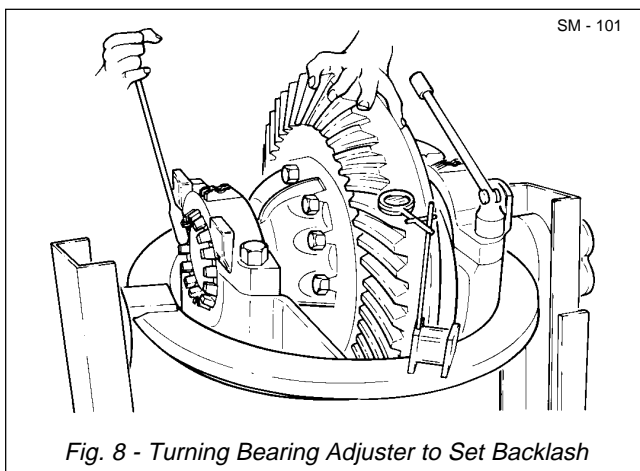

Fig. 8 - Turning Bearing Adjuster to Set Backlash
The bearing adjusters (26) have two basic functions: pre-loading cups (27) and cones (28); and positioning ring gear (31) to obtain the correct backlash between the ring gear and pinion gear (15). See Fig. 8. The bearing adjuster (26) located on the same side of pinion gear (15) as ring gear (31), pushes the ring gear toward the pinion gear. Bearing adjuster (26), located on the opposite side of pinion gear (15) than the ring gear, pushes the ring gear away from the pinion gear. The ring gear assembly must be installed onto carrier housing (19) so that cups (27) and cones (28) are properly pre-loaded; correct backlash exists between ring gear (31) and pinion gear (15), and satisfactory tooth pattern is established between ring gear and pinion gear.